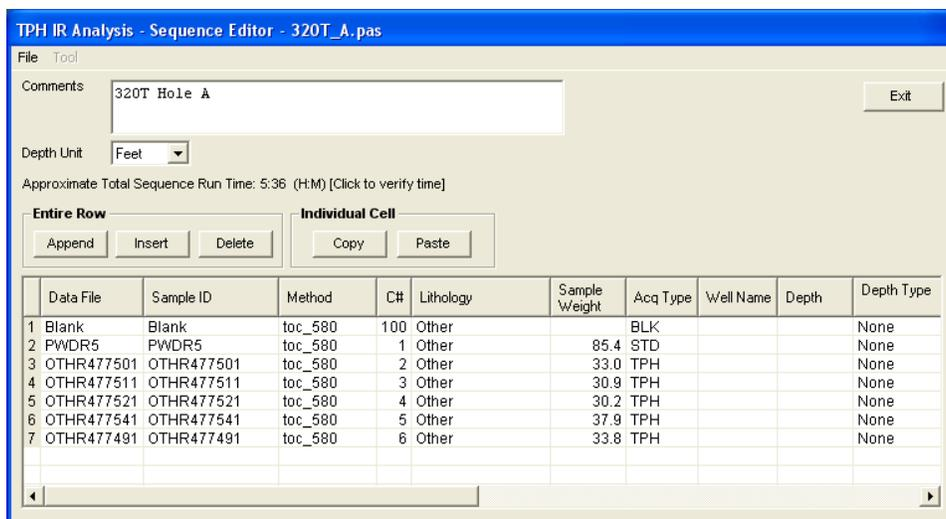

Figure 9. SRA > Sequence Editor > Sequence Table.
A sequence table represents an analytical batch (see Quality Assurance/Quality Control for information about batches and calibration). The sequence file is an archive file that is updated with respect to each run. After each batch, the sequence table is saved into the expedition-specific data folder. A typical sequence table contains the following (see Figure 9):
4. Click **Exit** at the top right of the *Sequence Editor* screen (Figure 9).